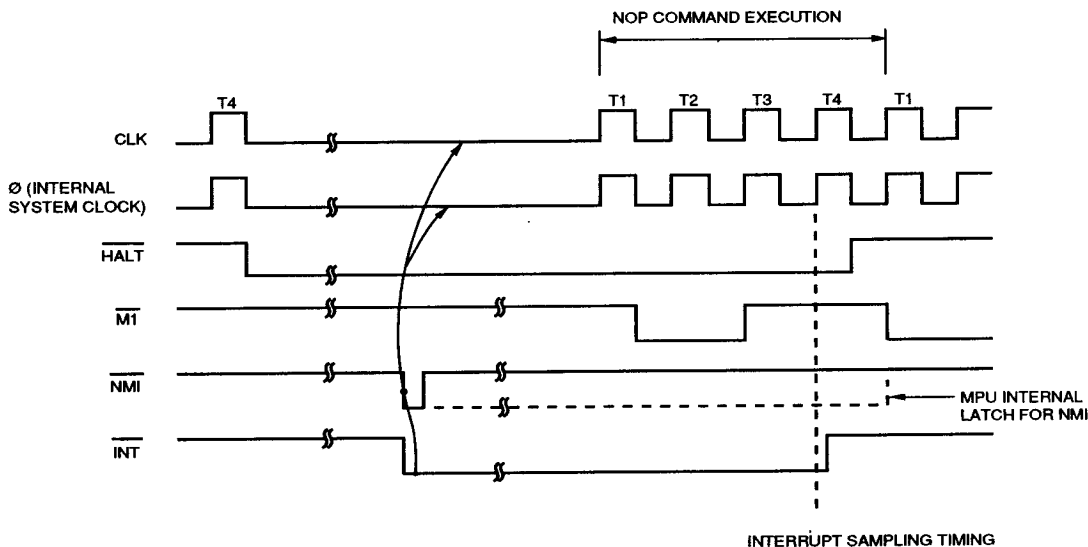

Figure 14. Halt Release Operation Timing by Interrupt Request Signal in STOP Mode
**STOP Mode** (MS1=1, MS2=0). The halt release operation by interrupt signal in STOP Mode is shown in Figure 14.